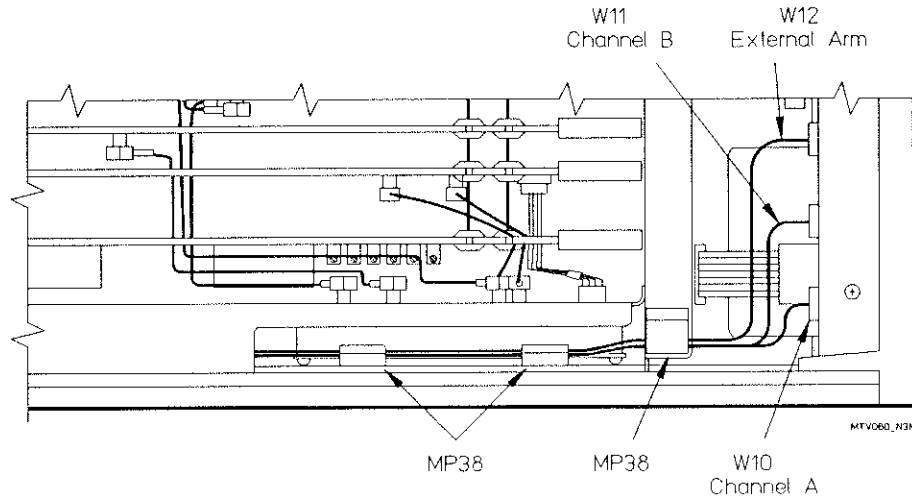

Figure 1-7. Top View of Option 060 Installation
- a. Attach one cable clamp to the upper-right corner of the instrument card cage. (See Figure 1-7.)
- b. Attach two cable clamps to the inner side of the right-corner strut, spacing them approximately two inches apart. (See Figure 1-7.)